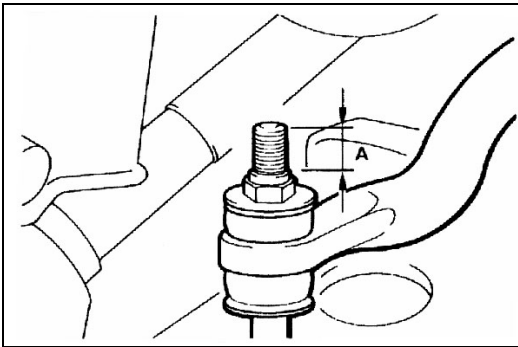

Fig.12-26
(2) Stabilizer bar installation see Fig.12-26